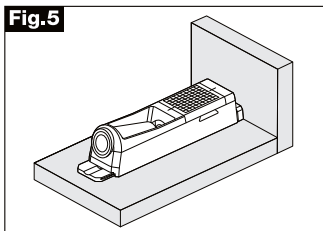

Fig.5a
- For repair work, set up slide adjuster face up (fig. 5a)